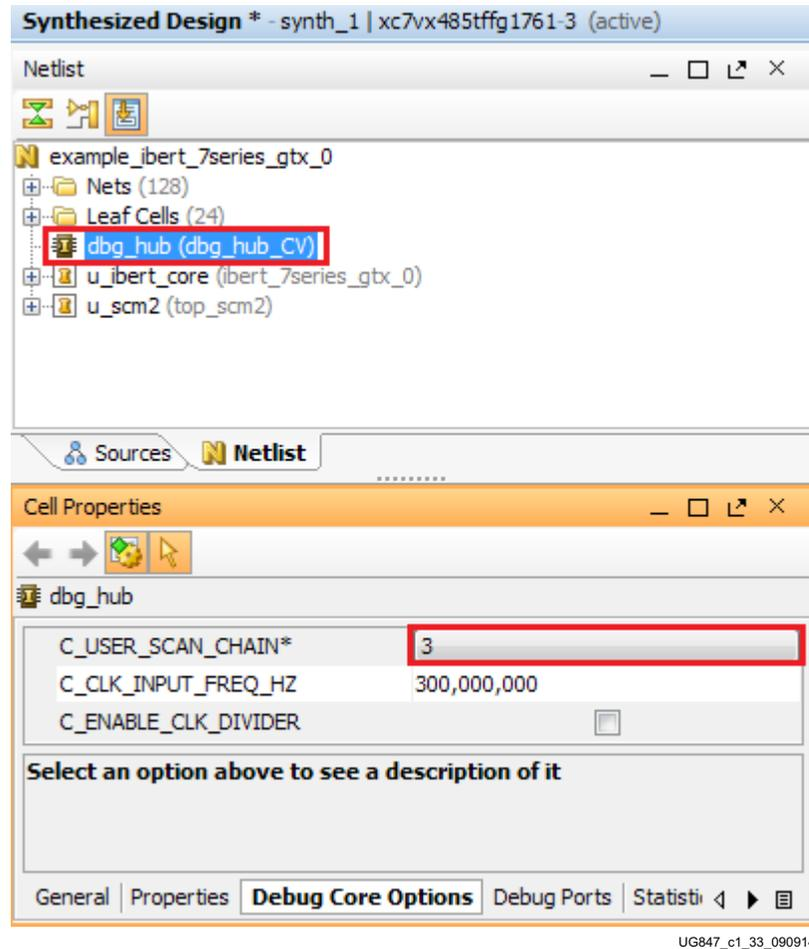

Figure 1-33: Dbg_hub Debug Core Options
- When the Synthesized Design opens, select **dbg_hub** in the Netlist window, then select the **Debug Core Options** tab in the Cell Properties window and change **C_USER_SCAN_CHAIN*** to **3** (Figure 1-33). Click **File > Save Constraints**.